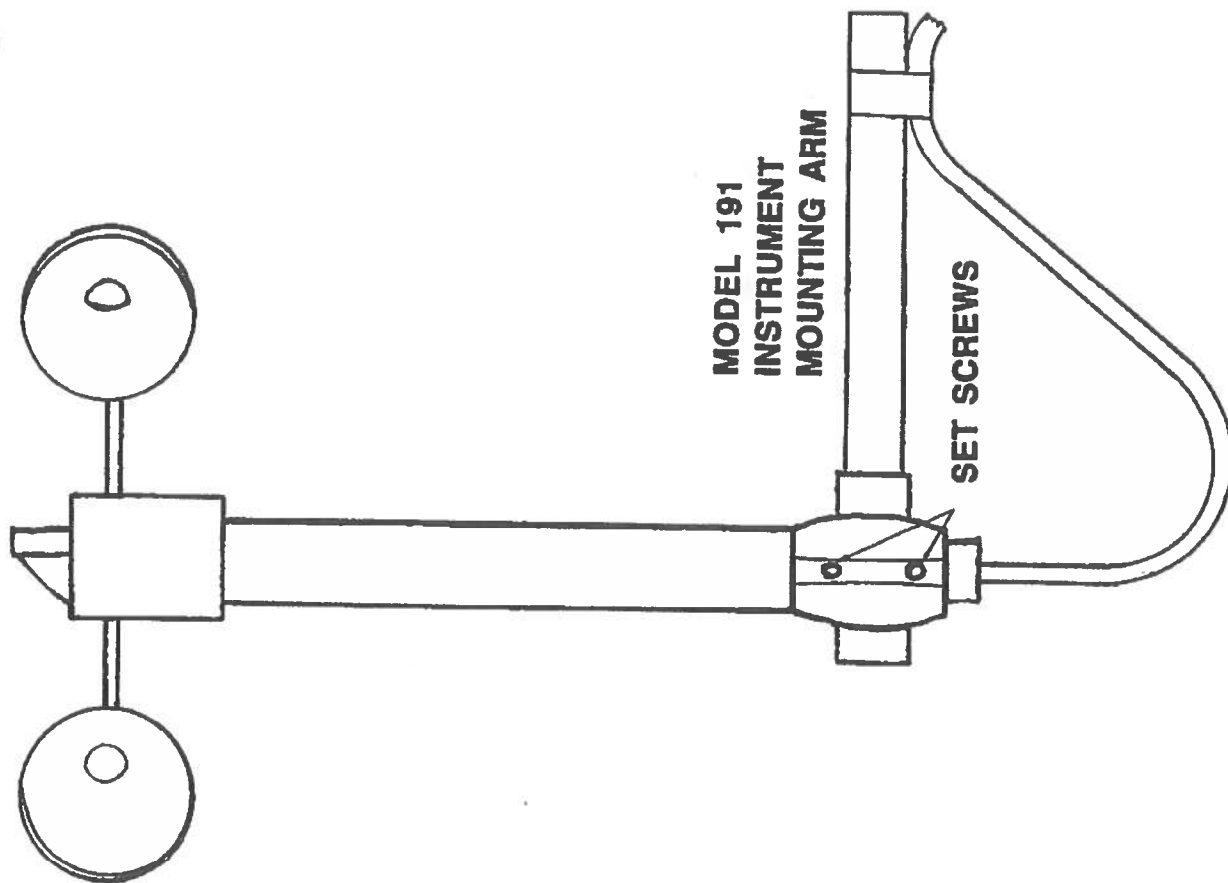

FIGURE 2-1
- B. Install the sensor into the fitting on the end of the 191 mounting arm. (THE END WITHOUT THE ALIGNMENT BUSHING) Install just deep enough to allow cable connection. (Reference the mounting detail in Figure 2-1).